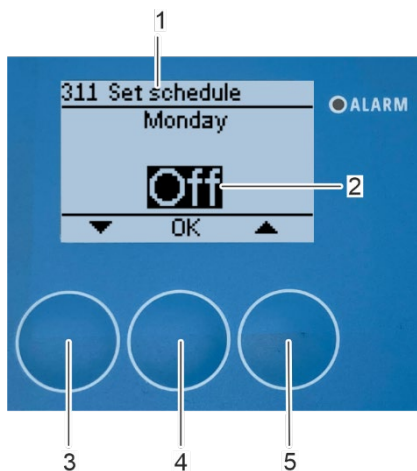

Fig. 155: Select the days for automatic cleaning
⇒ The "311 Set schedule" submenu (Fig. 155/1) appears on the display.
5. Press the arrow key *[up]* (Fig. 155/5) on the days you want the rotor cleaning device to perform an automatic cleaning.
*If the rotor cleaning device shall not perform an automatic cleaning on the selected day confirm the selection [Off] (Fig. 155/2) with [OK] (Fig. 155/4). The display switches to the next day of the week.*